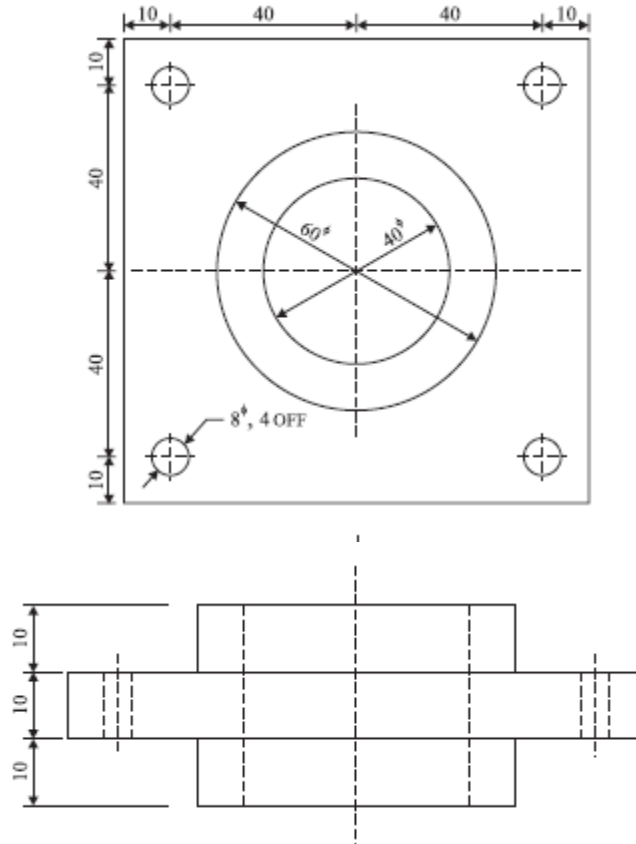

Fig. 5.26
- 5 Estimate the machining time to drill four 8 mm dia holes and one 40 mm dia central hole in the flange shown in Fig. 5.26. BT2 (16)